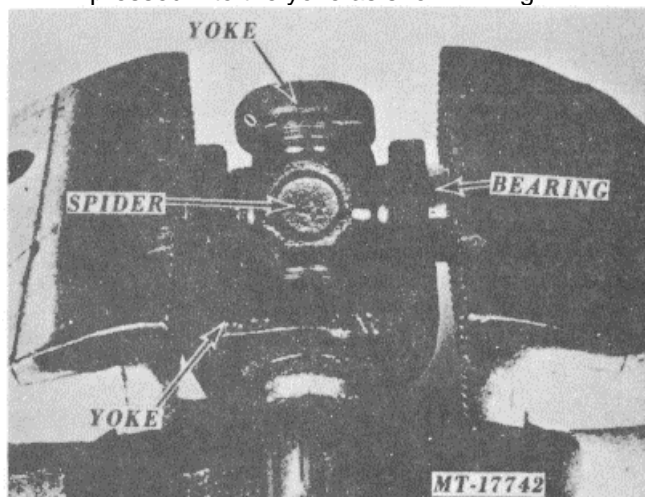

Fig. 12 Pressing Bearing Into Yoke
5. Place yoke in vise with bearings against jaws of vise. Tighten vise slowly and the bearings will be pressed into the yoke as shown in Fig. 12.